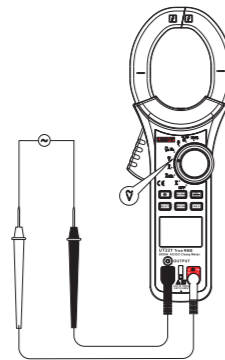

Figure 4
2. AC voltage measurement (\tilde{V}) (See Figure 4)